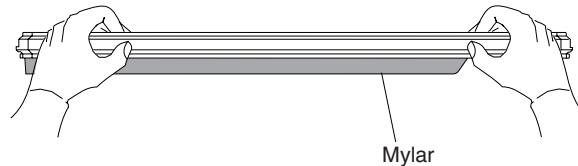

Figure 53. Grasping Paper Bail
1. Power off (O) the printer and remove the power cord.
5. To remove the paper bail, grasp it as shown in Figure 53. Rotate the paper bail toward the front of the printer until the pivot posts on the sides can disengage.
2. Grasp the paper bail, as shown in Figure 53.